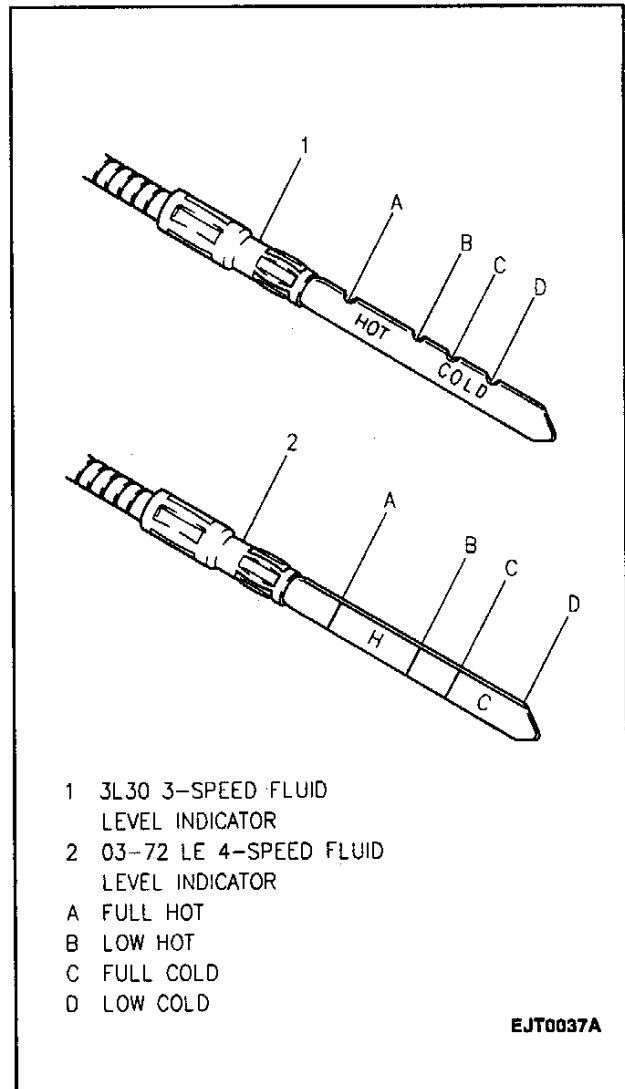

Figure 3—Fluid Level Indicator
Figures 3 and 4
8. Remove the indicator and check the fluid level (Figure 3). The level should be between the "FULL HOT" and "LOW HOT" marks. If the level is below the "LOW HOT" mark, add fluid to bring the level to the "FULL HOT" mark. Bringing the fluid level from the "LOW HOT" mark to the "FULL HOT" mark requires 0.3 liters (0.3 qts.) of fluid. Use Dexron®-III automatic transmission fluid GM P/N 12346143, or equivalent.
4. With engine running at idle, check the level on the fluid level indicator (Figure 3). Fluid level should be between "FULL COLD" and "LOW COLD" marks. If fluid level is below the "LOW COLD" mark, add fluid to bring the level between the "LOW COLD" and "FULL COLD" marks. Use Dexron®-III automatic transmission fluid GM P/N 12346143, or equivalent. DO NOT overfill.